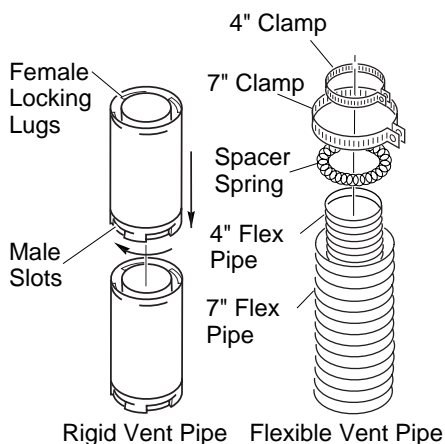

Figure 11 - Vent Pipe Connections
Twist-lock Procedure: The female ends of the pipes and fittings have four locking lugs (indentations). These lugs will slide straight into matching slots on the male ends of adjacent pipes and fittings. (All connections must be sealed with high temperature silicone sealant as specified in the second warning on page 7.) Push the pipe sections together and twist one section clockwise approximately one-quarter turn until the sections are fully locked. See Figure 11, page 9. **Note:** Horizontal runs of vent must be supported every three feet. Use wall straps for this purpose.
Flexible vent pipe must be installed with separation spacer springs every 12". See Figure 11, page 9. All connections must be clamped tightly and sealed with high temperature silicone sealant as specified in the second warning on page 7.
2. Assemble the desired lengths of pipe and elbows necessary to reach from the fireplace flue up through the firestop. All connections must be sealed with high temperature silicone sealant as specified in the second warning on page 7. Be sure all pipe and elbow connections are fully twist-locked (see Figure 11, page 9).